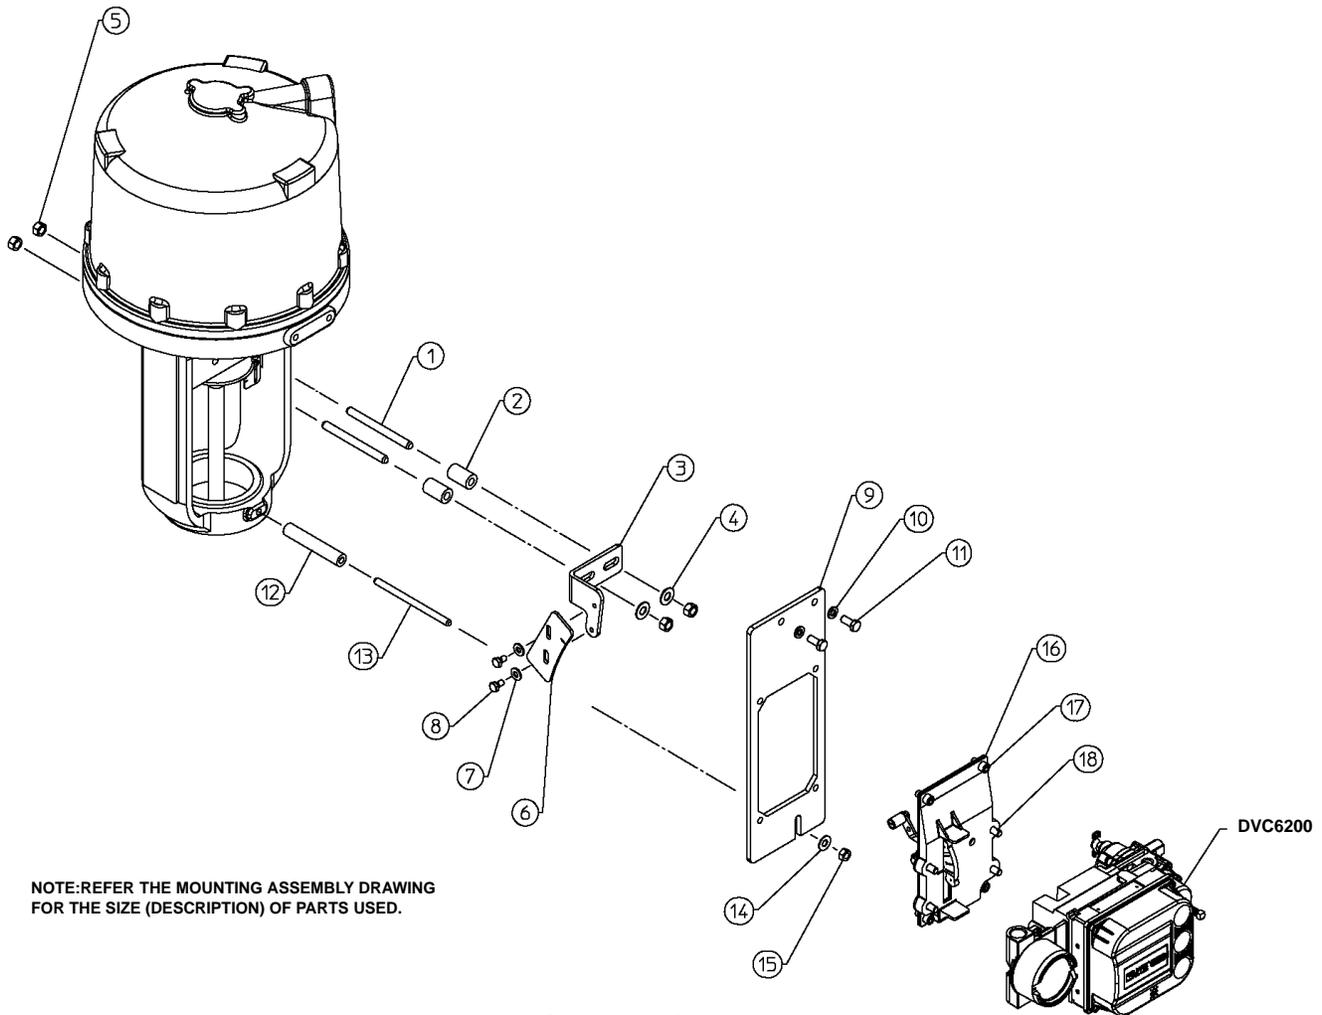

Figure 3. Mounting Parts Identification
Refer to figure 3 and the parts list for mounting parts identification. Refer to the DVC6200 digital valve controller instruction manual for digital valve controller parts identification. Refer to the appropriate actuator instruction manual for actuator installation, operation, maintenance, and parts identification. Figure 1 shows the arced feedback assembly (RShaft Window #1).
2. During the attachment of the cam bracket (key 3) to the valve stem connector it will be necessary to remove the stem connector cap screws. Consult the appropriate actuator instruction manual for proper actuator disassembly and reassembly.
3. Attach the cam bracket (key 3) to the stem connector using two stud bolts (key 1), two plain washers (key 4) and four hex nuts (key 5) and two spacers (key 2), as shown in figure 3.
4. Attach the cam (key 6) to the cam bracket using two plain washers (key 7), and two hex head screws (key 8) as shown in figure 3. Ensure that the cam is oriented as per the mounting assembly drawing.
5. Attach the mounting plate (key 9) to the actuator yoke top mounting face using two lock washers (key 10) and two hex head screws (key 11), as shown in figure 3. Similarly, attach the mounting plate to the bottom yoke mounting by using a spacer (key 12), stud (key 13), plain washer (key 14), and hex nut (key 15).
6. Attach the digital valve controller to the arced feedback assembly (key 16) using the four metric hex socket cap screws (key 18).
7. Attach the arced feedback assembly along with the digital valve controller to the mounting plate using the four imperial hex socket cap screws (key 17) as shown in figure 3. Ensure that the roller of the arced feedback assembly is centered and resting on the cam surface as shown in figure 2.